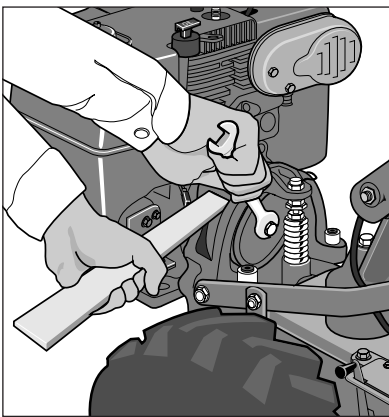

Figure 5-23: Removing Reverse Disc.
3. Use a 9/16" wrench to loosen the mounting bolt shown in Figure 5-23. Remember to immobilize the pulley with the wood wedge while loosening the bolt. If necessary, pry the disc from the pulley with the tip of a screwdriver. Back the bolt out as far as possible. Then angle the disc a little to remove it. Bring the bolt and lockwasher along with the disc.